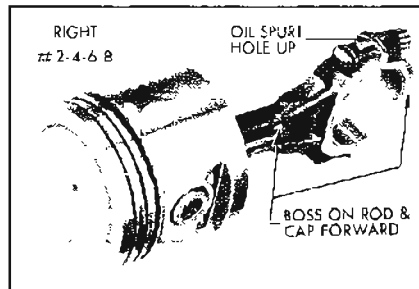

Figure 2-50—V-8 Right Bank Piston and Rod Assembly
3. If the piston and rod is to be installed in the right bank, the assembly must be made as shown in Figure 2-50 or 2-51.